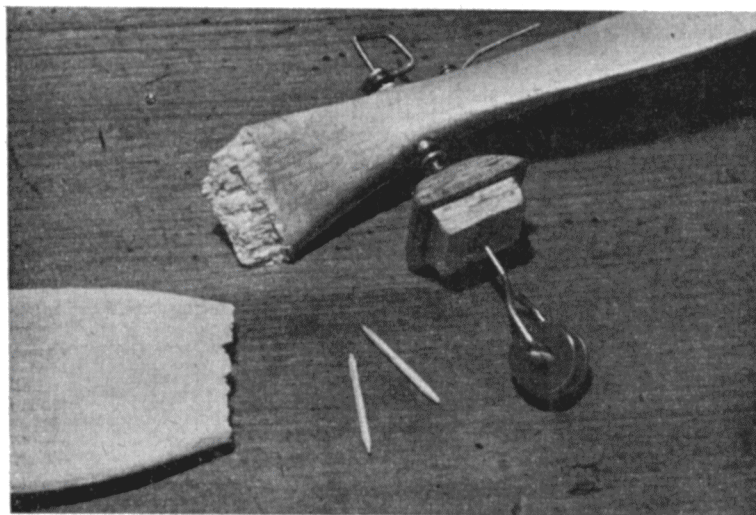

Fig. 1. The broken propeller of a rubber model. Note the two small cane dowels, sharpened at both ends.
First of all split off two thin strips from a piece of cane. They should be about an inch long and only as thick as a match stick. Sharpen them at both ends. Fig. 1 shows these two little cane dowels, and the propeller with the blade snapped right across. Try pushing the two parts of the broken propeller together, and work them carefully against each other. If the break is a clean one as is the case in Fig. 1, they should knit together so closely as to make the joint practically invisible. If the faces of the break have become squashed or damaged in some way, now is the time to remove the odd splinters of wood so as to make the "dry" joint as neat as possible before the dowels or any
1. Radio layout and battery wiring. The novice must understand how to connect up his batteries by simple soldering, and I am going to assume he does not even realize how the components are installed in the model. My explanation may prove a little longwinded, but I am describing things to people who are new to it, and I want them to find their way about in an orderly manner. The layout can be studied in Fig. 1, and comprises (a) A transmitter with its ground, with its batteries. (b) The receiver with its *all important* "relay", which will be described in detail later, and an actuator, with their attendant batteries in the model.
Now follow Fig. 1, (b) and (c) which shows the receiver and its batteries and the servo with its batteries, whilst below it will be seen where these components fit into the model. In Fig. 2 the reader will see how to wire and solder up the batteries shown in Fig. 1. It will be noticed that the H.T.